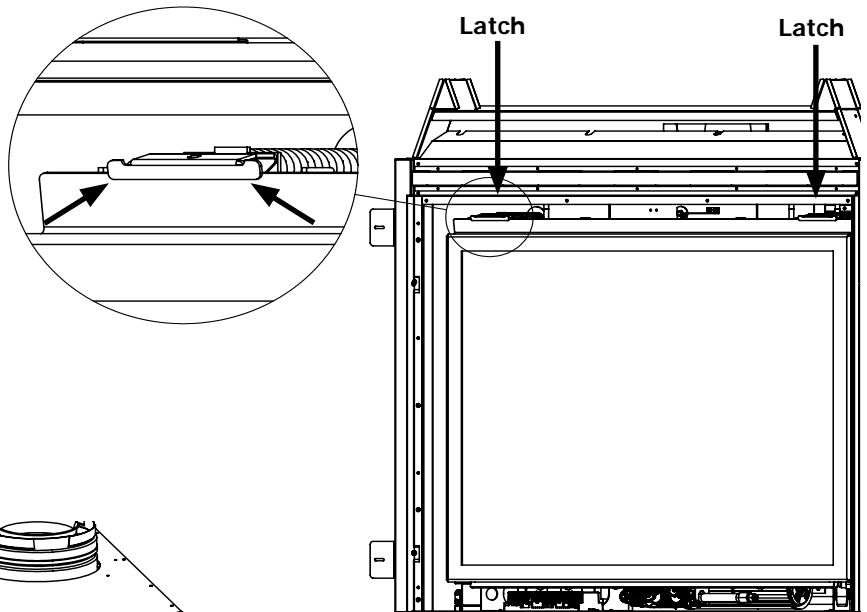

Figure 17: Glass Door - Latch Removal
1. Release the two top spring latches using your index fingers to pull the latches forward, then up off the door tabs (figure 17).